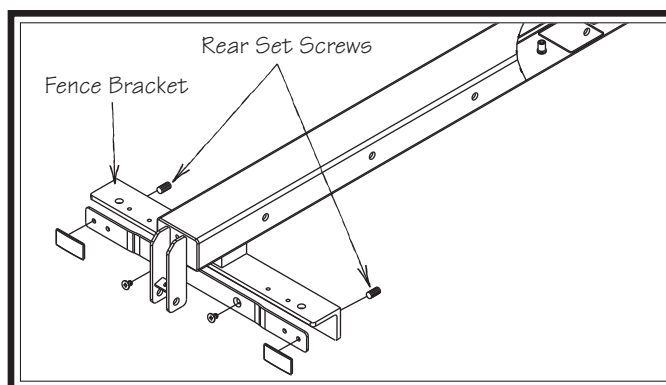

Figure 135. Location of set screws used to adjust fence parallelism and clamping pressure.
2. Remove fence and equally adjust rear set screws illustrated in **Figure 135** as necessary, then re-install fence and check clamping pressure. Readjust as necessary until fence will not move as pressure is applied against it when it is locked.